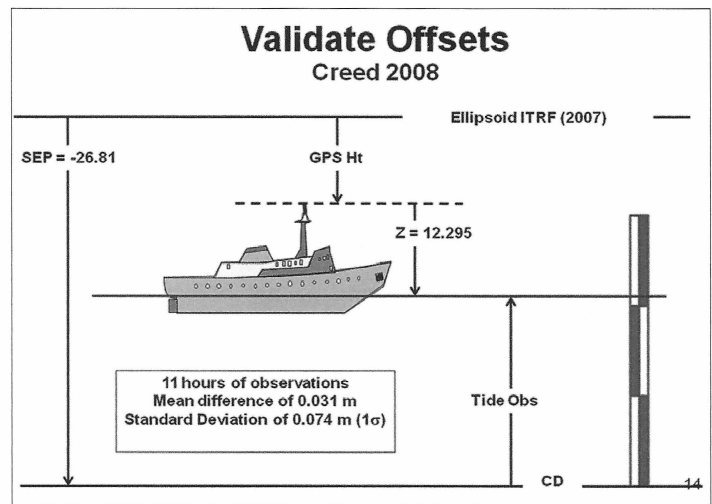

Figure 1: Creed 2008 Vertical Offset Diagram
- Develop vertical offset diagram showing (Figure 1)